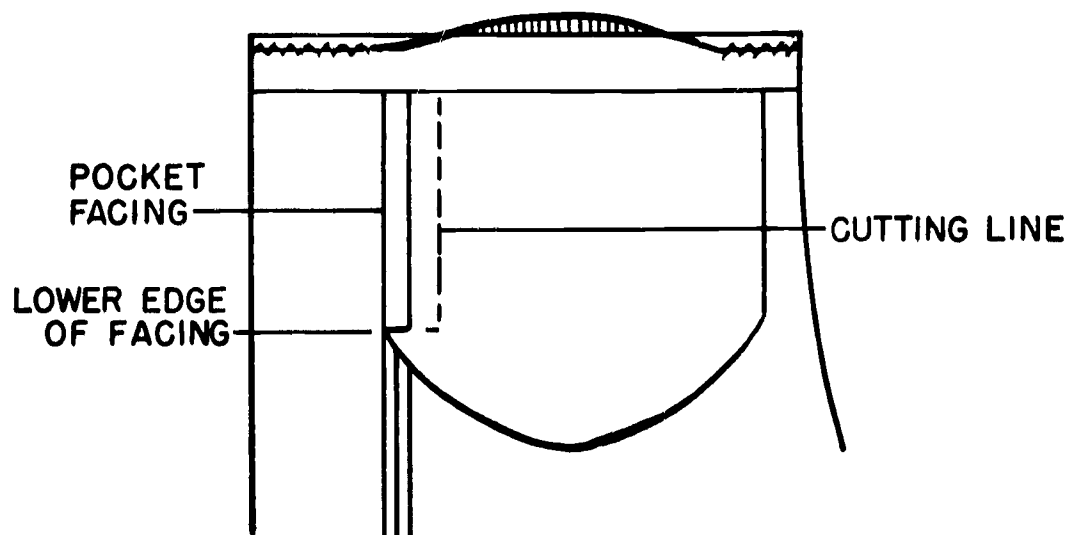

Figure 82.
4. Cut the pocket out of the trousers, beginning $\frac{1}{2}$ inch beyond edge of pocket facing. Cut flush with bottom of facing at lower edge (see Figure 82).